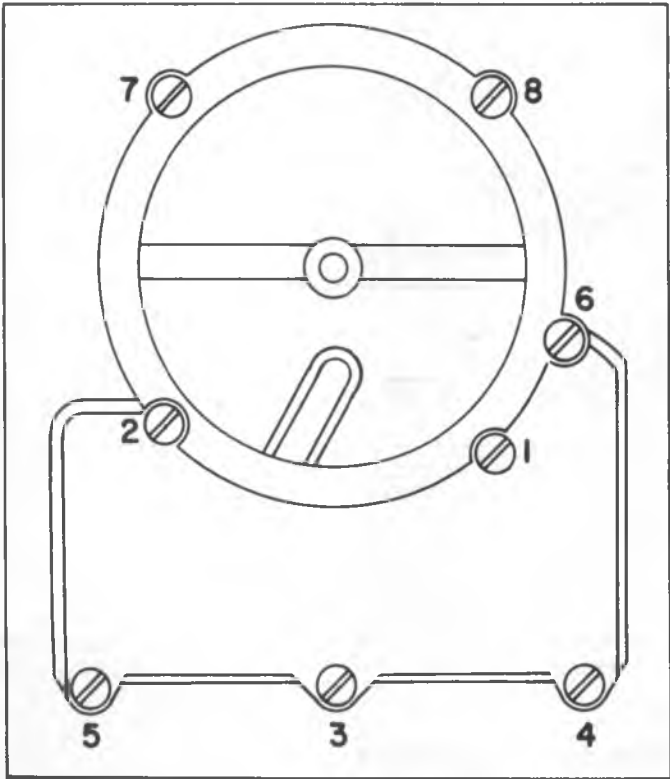

Fig. V9--Air Horn Tightening Sequence
- 2. Install and tighten air horn screws evenly and securely in sequence shown in Figure V9. The number one screw is the long screw.